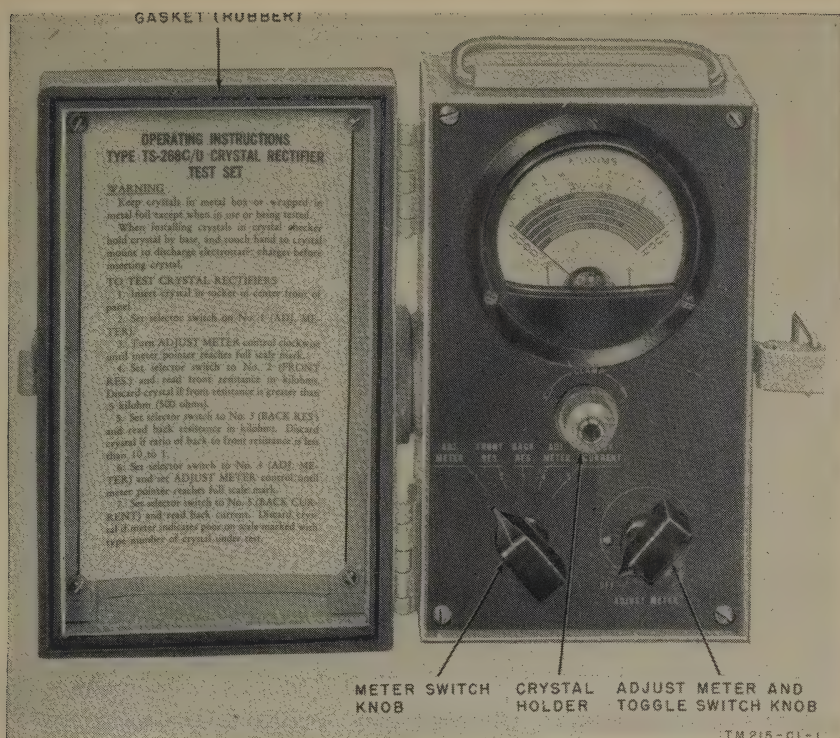

Figure 8. Crystal Rectifier Test Set TS-268C/U, front panel view.
a. Preliminary. Set the meter selector switch (fig. 8) to the first ADJ. METER position (position 1) in a clockwise direction. Vary the ADJUST METER control until the needle is at the extreme right (zero ohm) position. Then set the selector switch to the ADJ. METER position (position 4). Vary the ADJUST METER control until the needle is at the extreme right (zero ohm) position.